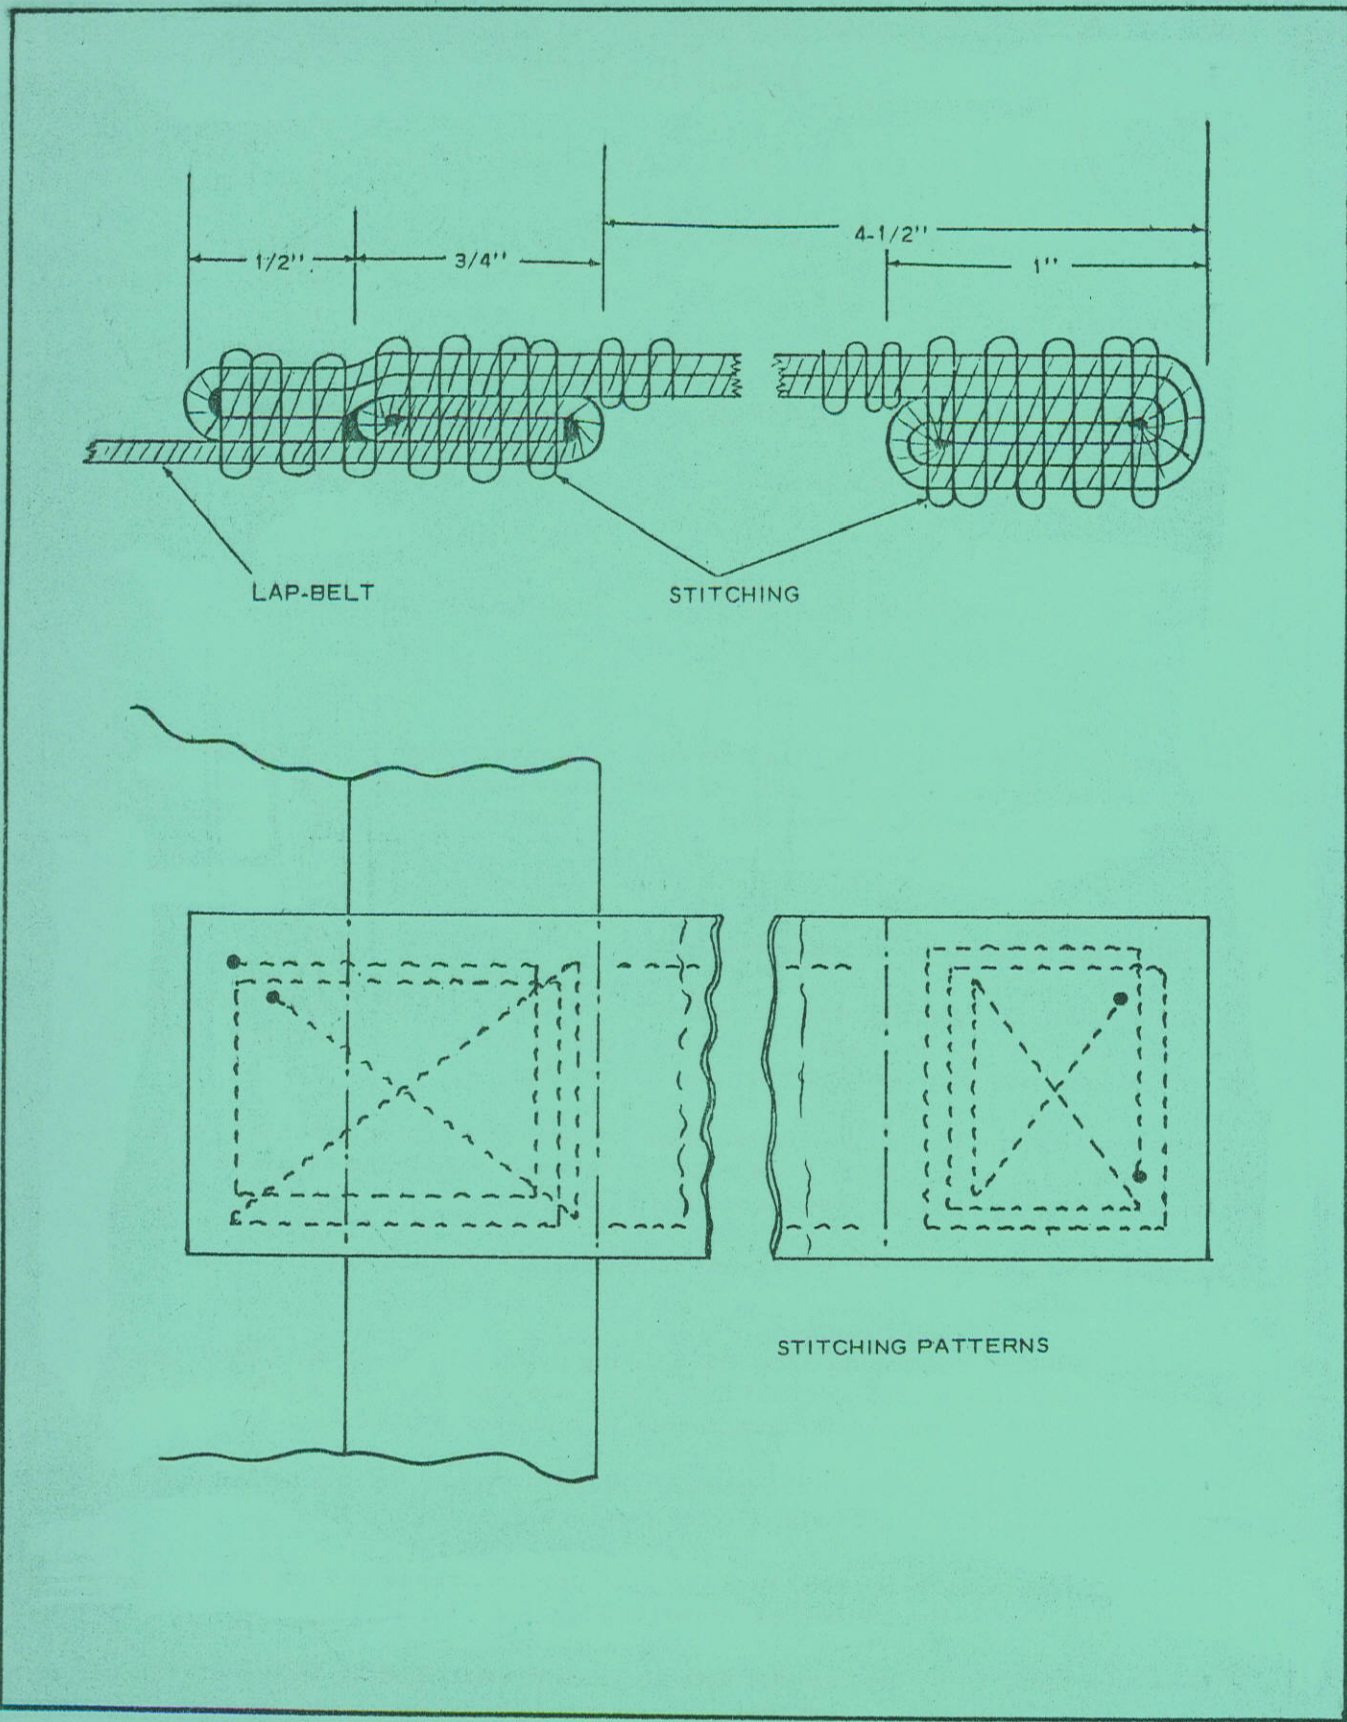

Figure 1 C2 Seat Lap-Belt Extension Tab
(1) Cut a 16" length of webbing 32B/NIC webbing nylon MIL-W-4088, TS600, type 2, condition "R", 1" wide olive drab and fold in two with one side 1/2" longer than the other. Using the folded end tuck under in a double 1" fold, see Figure 1.
(2) Oversew the folded end with the pattern shown in Figure 1 using thread nylon Ref. 32B/8310-21-806-5032 four to six stitches per inch, see Figure 1.
(3) Take the free ends of the tab, tuck the 1/2" portion around and under the shorter end of the webbing. Sew to the lap belt as shown in Figure 1.